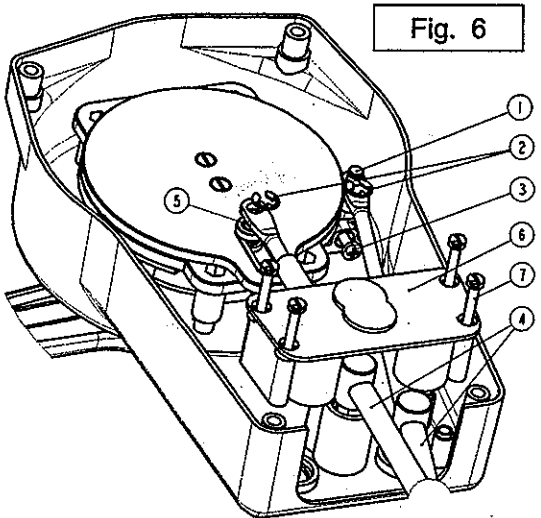
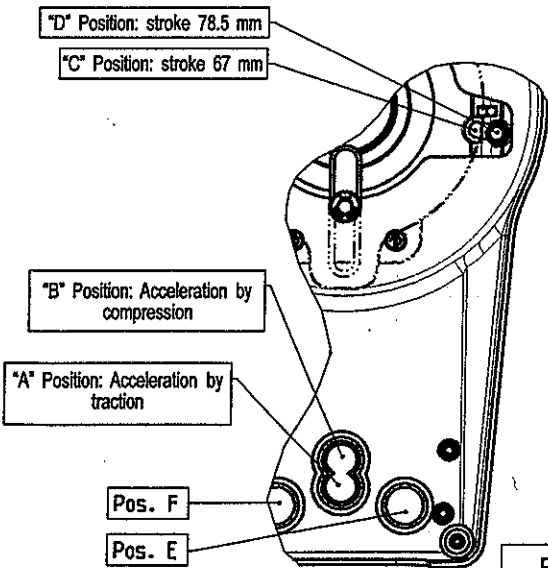

Fig. 6
Fig. 7
1. Insert the reverser stud (1) in the control cable rod eyelet (see Fig. 6) and fix it with the stop-ring (2). The cable shall be positioned in the "E" or "F" seat (see Fig. 3), according to the direction of installation of the box (see Fig. 7).
Insert the reverser stud in the slot (see Fig. 6) and place it in position "C" (inward) or "D" (outward) depending on the necessary stroke (see Fig. 7).
1. Insert the cable in the throttle stud (5) and fix it with the stop-ring (2) (see Fig. 6).
2. Insert the cable lock (6), making sure that the cables barrels are properly positioned in their seats. Fix the cable lock with n°. 4 M4x40 screws (7) (see Fig. 6)